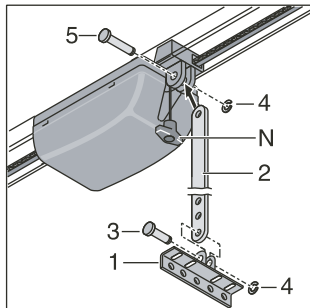

Fig. 17
Fig. 17 Lift the guide (3) and align the bracket for the suspension to the ceiling. The position must be in zone B, where B is 0 to 600 mm. long. Carry out two holes \varnothing 10x65 mm. and insert two expansion plugs S10 (1) and fix tight the two screws 8x60 (2) by using the two washers (2).